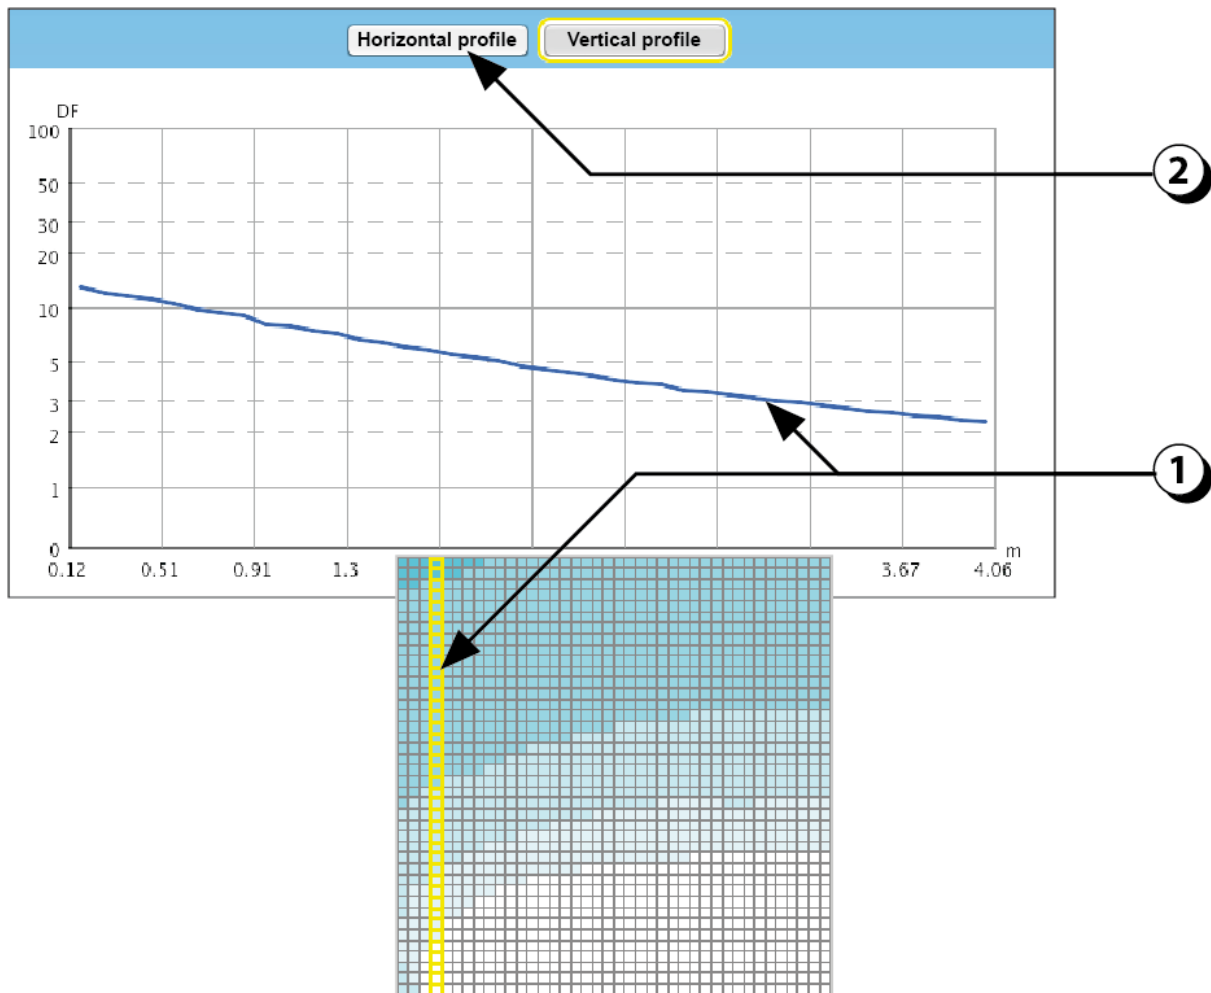

Figure 128: Display of the DF Profiles.
4. If you click inside the colour patches, a profile of the values (line or column) is displayed (see Figure 128).
4. If you click inside the colour patches, a profile of the values (horizontal or vertical) is displayed (see Figure 128).